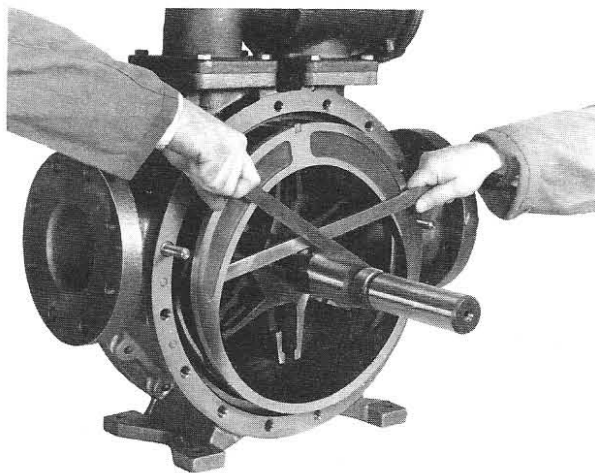

Figure 5 - Liner Removal
4. The packing rings (19) and packing washer (58) can be pulled from the stuffing box with the use of a corkscrew tool or screwdriver. Be careful not to scratch the shaft.
7. Remove the head capscrews (21) and head stud nuts (21C). Two jack screw holes are provided in the rim of the head to facilitate removal.
9. The disc (71) will come off with the head assembly and is attached with four (4) countersunk, allen-head machine screws (71A) and lockwashers (71B).
10. From the open side of the pump, grasp the rotor in the 3 and 9 o'clock positions, and gently pull the rotor and shaft (13) out of the head assembly remaining on the casing. **CAUTION:** Use care to avoid injury—the rotor and shaft is heavy and may have sharp edges.
12. Depending on the pump application, the liner (41) can be removed in two ways:
- a. If the pumpage is a clean, non-corrosive liquid, with low viscosity, the liner can usually be withdrawn from the casing by prying with two bars. Insert the tips of the bars into the port openings on either side of the liner, and partially remove the liner by prying against the rotor. Use a block under the bar, against the rotor, to bring the liner the rest of the way out (see Figure 5).